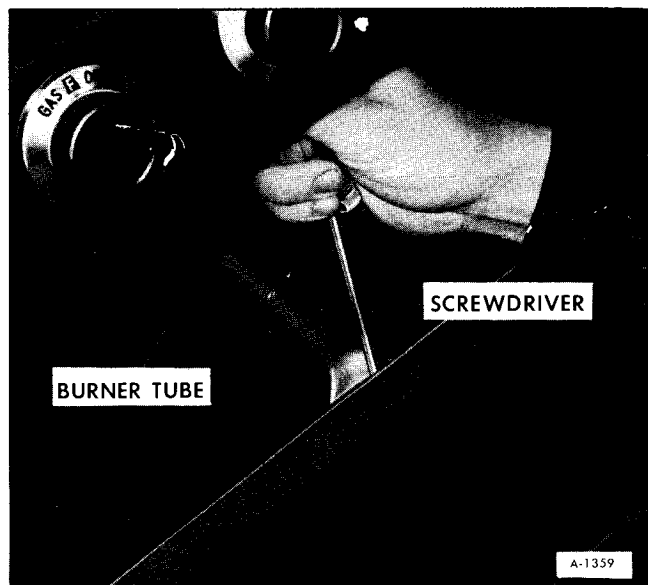

Figure 19-Removing Retaining Screw at Front of Burner Tube
7. Remove the screw from the front of the burner tube (figure 19).